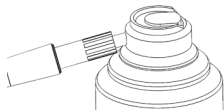

Fig. 4
3. Fit spray adapter onto universal cap nozzle of approved lubricant (Fig. 4).